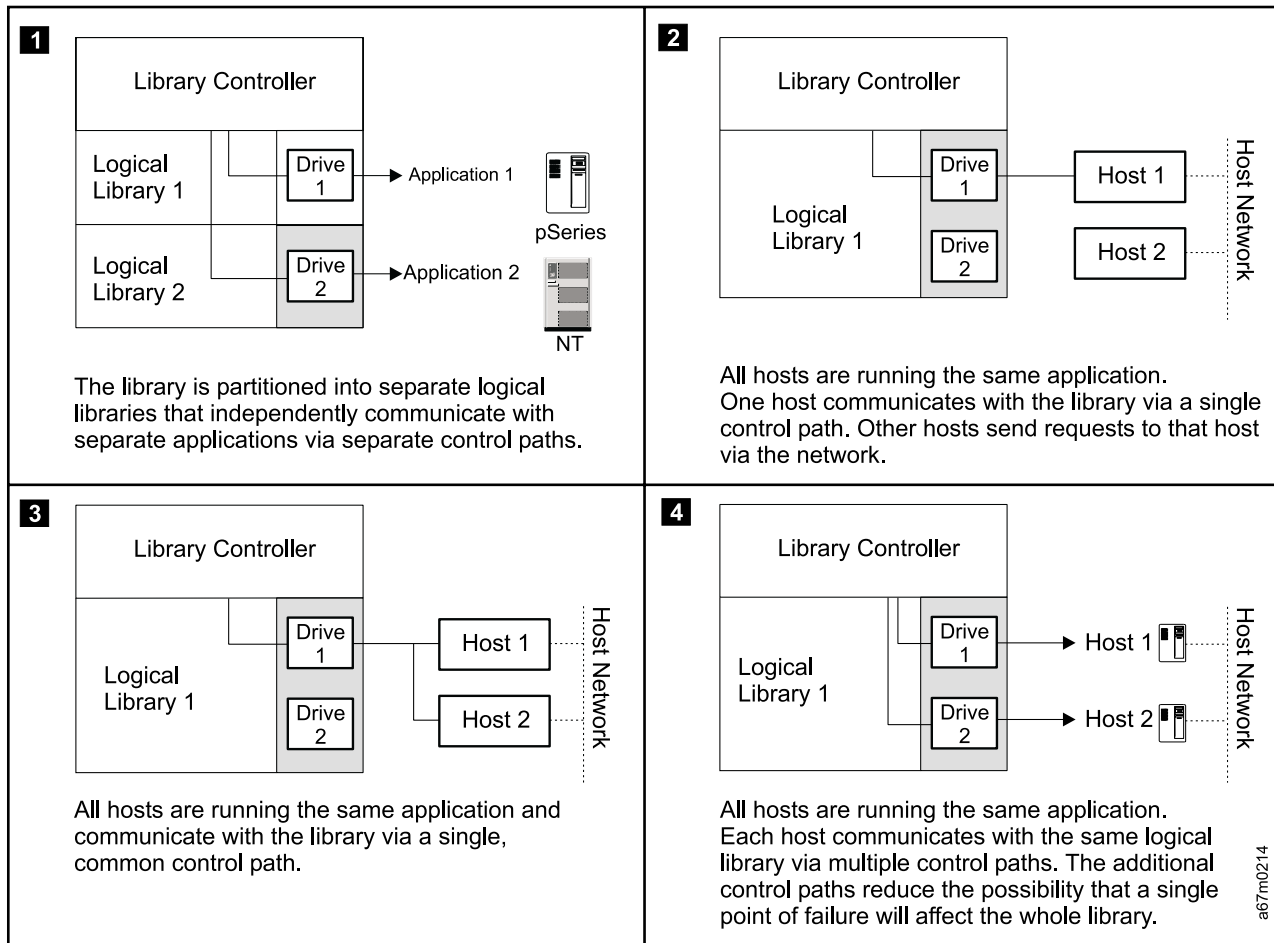

Figure 7. Examples of configurations for a 3582 Ultrium Tape Library. Lines from one or more drives to the library controller represent control paths.
- Configure the library so that is partitioned into separate logical libraries that independently communicate with separate applications through separate control paths. This configuration (see example **1** in Figure 7 on page 12) requires no special capabilities from the server or application. (For more information, see “Using Multiple Logical Libraries” on page 13.)
- Configuring one server (host) to communicate with the library through a single control path; all other servers send requests to that server through a network (see example **2** in Figure 7 on page 12). This configuration is used by Tivoli® Storage Manager (TSM).
- Configuring all of the servers to communicate with the library through a single, common control path (see example **3** in Figure 7 on page 12). This configuration is used in high-availability environments such as IBM’s High Availability Clustered Microprocessing (HACMP) and Microsoft®’s Systems Management Server (SMS) and Clustered Server Environments. Multi-initiator configurations are only supported by certain adapters and ISVs. Check with your ISV.
- Configuring a single logical library to communicate with multiple servers through multiple control paths. This configuration (see example **4** in Figure 7 on page 12) requires that you add control paths (see “Using Multiple Control Paths” on page 13). It is used by Backup Recovery and Media Services (BRMS).